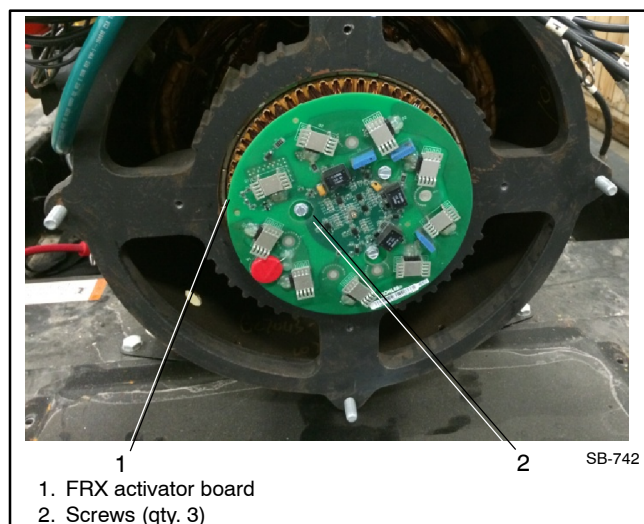

Figure 6 Removing the FRX Activator Board
3.4 **For Units Before Alternator Serial Number 96779:** Remove the 3 screws and the existing FRX activator board from the exciter armature. See Figure 6. The existing FRX activator board and 3 screws will not be reused.